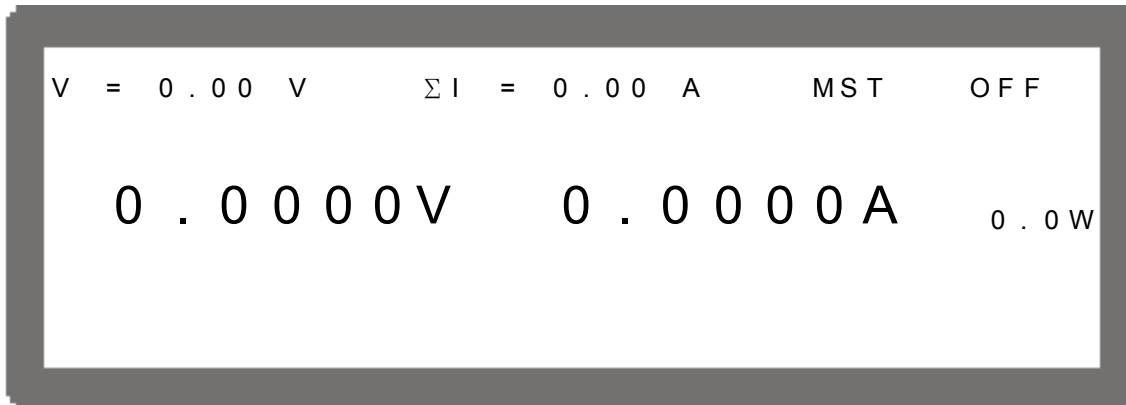

Figure 3-45
3. Press “” to confirm, it will skip to the series/parallel MASTER page automatically as Figure 3-45 shows.